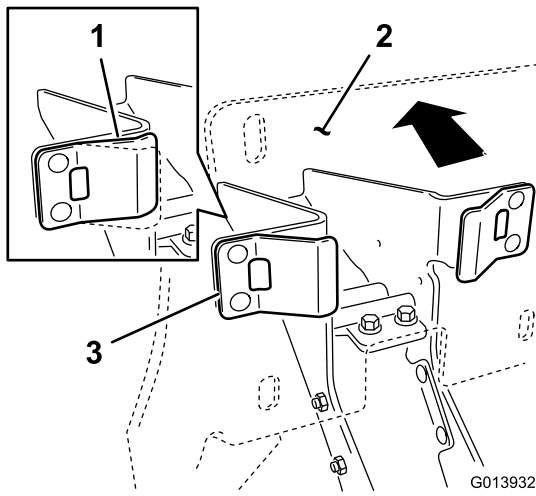

Figure 19
- Making sure that the plastic stops are in contact with the spring tabs, apply enough pressure against the back plate assembly of the cradle to compress the spring tabs midway (Figure 19).